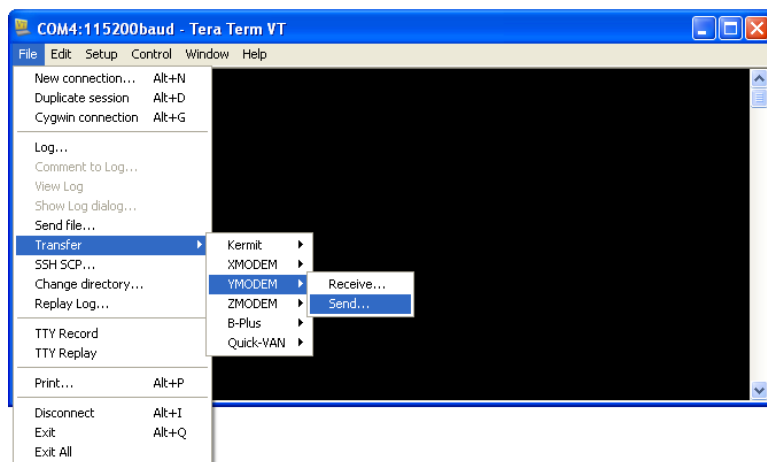

Figure 4: Tera Term Y-Modem Selection
- g) The YMODEM Send Dialog will appear. See Figure 4